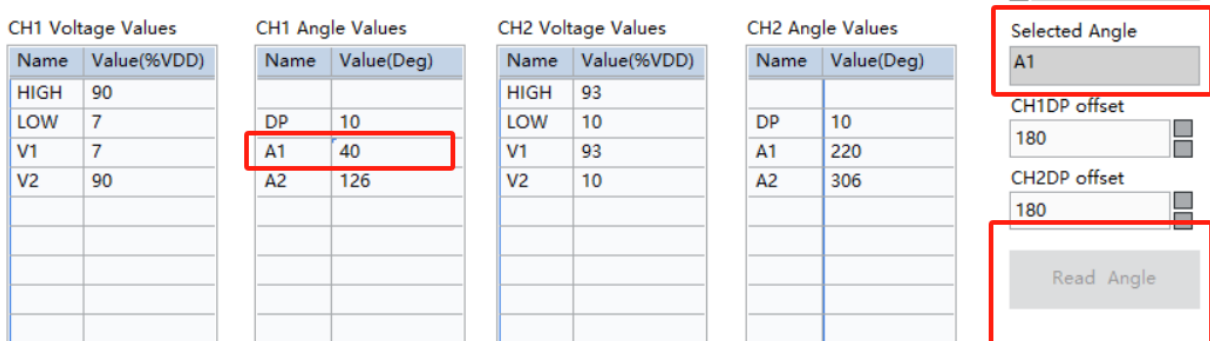

Figure 5.5.11 Read A1/A2 angle value
- Click on the "Angle Value" box corresponding to "A1" in CH1, place the magnet (sensor) angle at the first position that needs to be programmed, stabilize it, and then click the "Read Angle" button to read the current chip angle value, which will be displayed in the angle values "A1" of CH1 and CH2. The current read chip angle is 81.83 ° for "A1" of CH1, and 263.68 ° for "A1" of CH2; The same way, the angle value of "A2" for CH1 is 173.56 °, and the angle value of "A2" for CH2 is 351.64 ° (Figure 5.5.11).